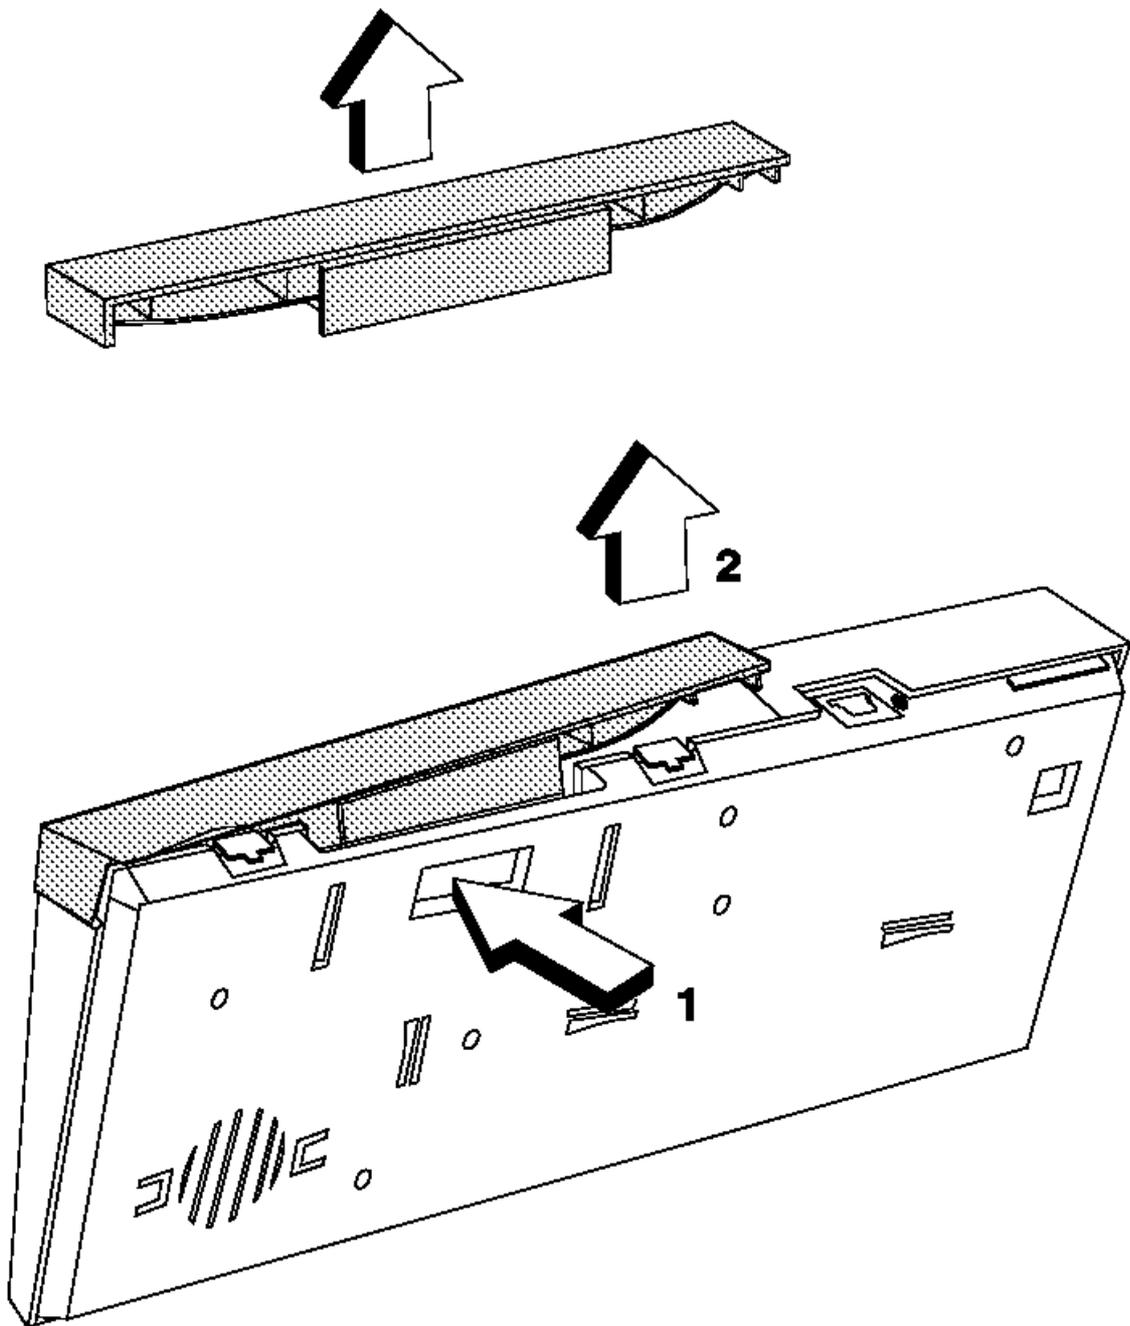

Figure 4-7. Removing the ANPOS card reader or Filler Cover
1. Stand the keyboard on its front edge. See Figure 4-7.
2. Press and hold the card reader latch (1) on the bottom of the keyboard.
3. While pressing the latch, grasp the end of the card reader or filler cover nearest the center of the keyboard (2) and lift it away from the keyboard.